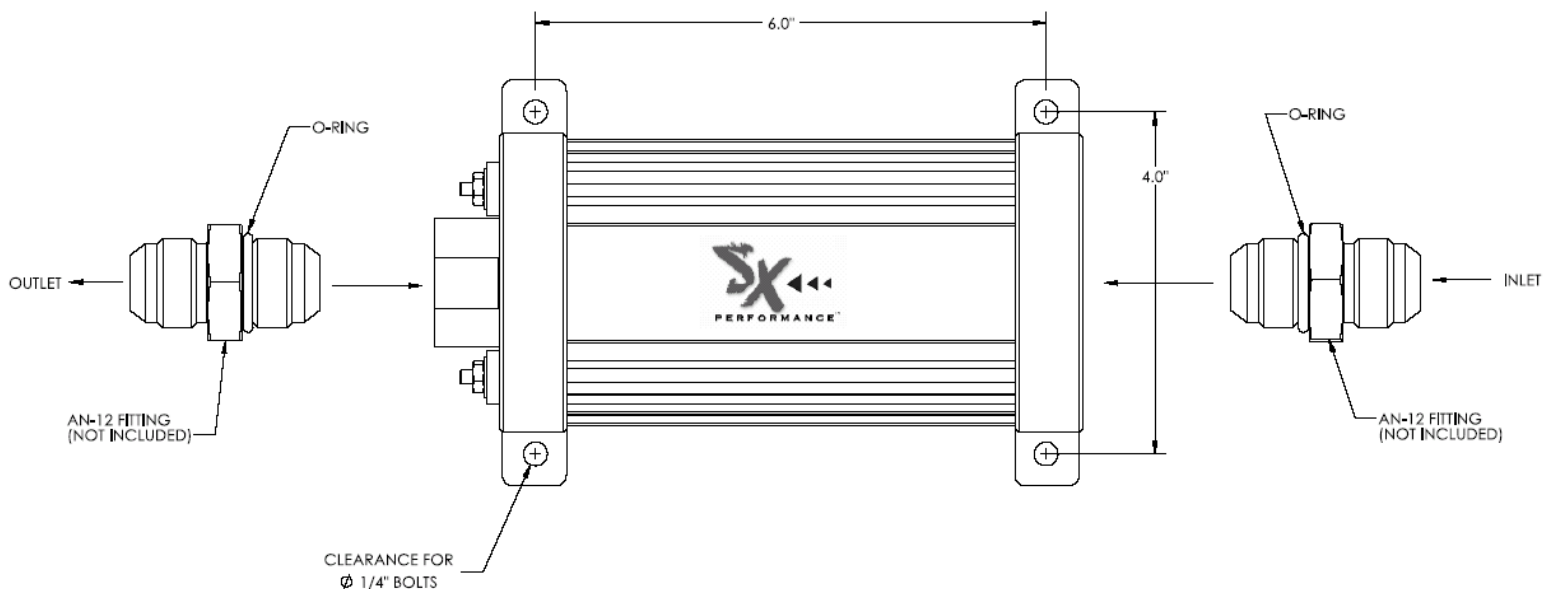

Figure 1 – SX Performance™ Model 18207 Fuel Pump
3. Mount the new pump in a suitable place on the vehicle chassis using quality 1/4" hardware (not supplied). Refer to Figure 1 for mounting hole locations. The pump must be mounted on a horizontal level that is even with or below the bottom of the fuel tank and as close to the fuel tank as possible. Ensure all fuel lines from the pump to the carburetor or fuel injection rails are high-pressure grade (200 psi minimum). Replace existing fuel lines as necessary so they line up with the new pump.
7. Connect and tighten fittings to the inlet and outlet fuel lines, see Figure 1.